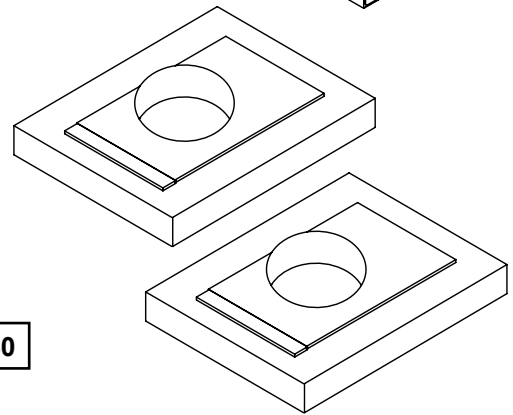

FIGURE 60
**Step 22:** Top plate part # 77A, two required, to be used “as is”. (Figure 60)